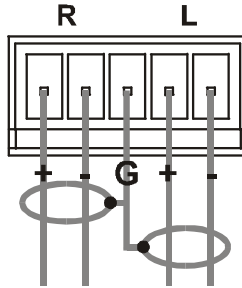

Figure 3: Connecting the Balanced Stereo Audio Input/Output
- A balanced input/output connection, see Figure 3